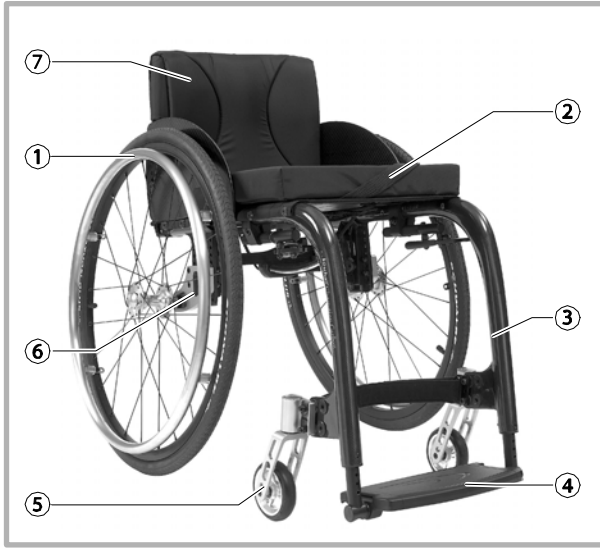

Figure 1
The wheelchair consists of a frame (lateral support ⑦ and front frame ③) to which the seat ② and the backrest ⑨ are fixed. A folding mechanism connects the left and right lateral supports and allows folding of the wheelchair. The two rear wheels ① are connected to the lateral support via an adapter plate ⑥. The front wheels ⑤ and the footrest ④ are fixed to the front frame. (See Figure 1)